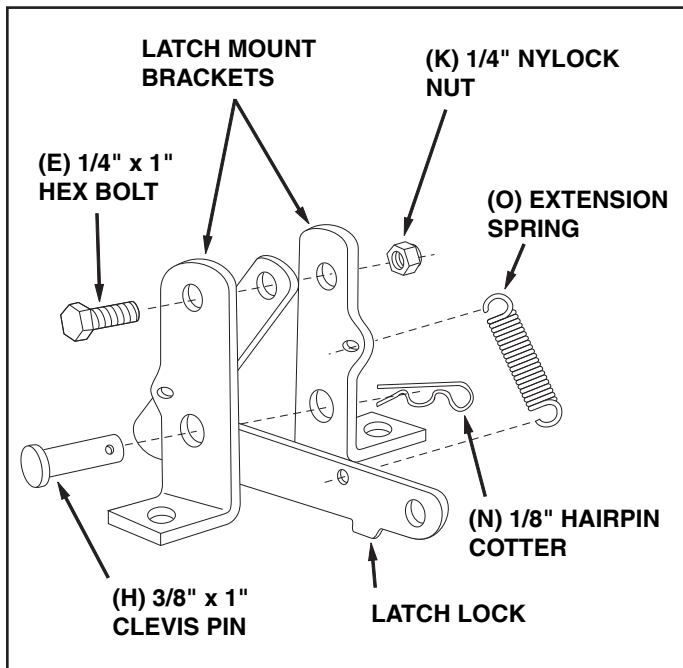

FIGURE 1
3. Assemble the latch lock between the latch mount brackets using a 1/4" x 1" hex bolt (E) and a 1/4" nylock nut (K). Tighten so that the latch lock can still pivot. Attach the extension spring (O) to the latch lock and the latch mount bracket as shown in figure 1.
4. Insert the 3/8" x 1" clevis pin (H) through the holes in the latch mount brackets and secure with a 1/8" hairpin cotter (N). See figure 1.
IMPORTANT: Leave the latch lock clevis pin in place at all times while using the cart as a push cart. The clevis pin is shown in figure 1 on page 5.